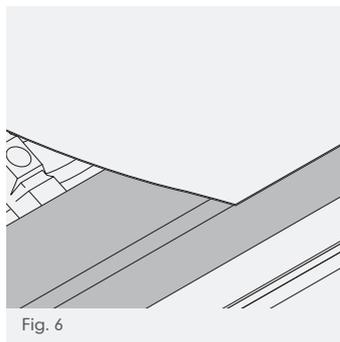

Fig. 6
- 7 For 10 or 25mm systems, lay the underlay over the support tray stopped approx. 25mm from the top of the front edge of the felt support tray (Fig 6, page 135).